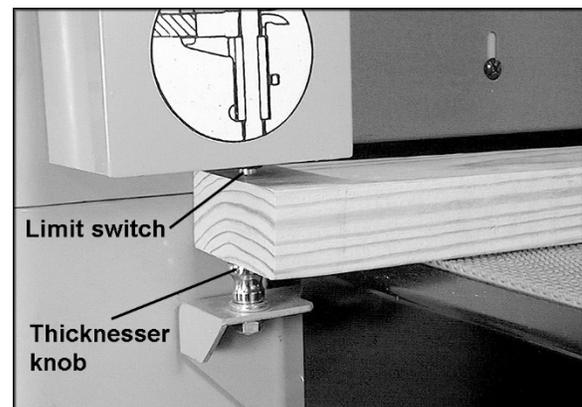

Figure 21
2. Press and hold the UP ▲ button on the keypad to raise the conveyor table until the thickener knob (Figure 21) contacts the limit switch. The table will automatically stop while making slight contact with the sanding belt.
1. Place your workpiece upon the conveyor table and move it below the thickener, as shown in Figure 21. Keep the workpiece flat upon the table. Press and hold the UP ▲ button on the keypad to raise the conveyor table. When the workpiece contacts the limit